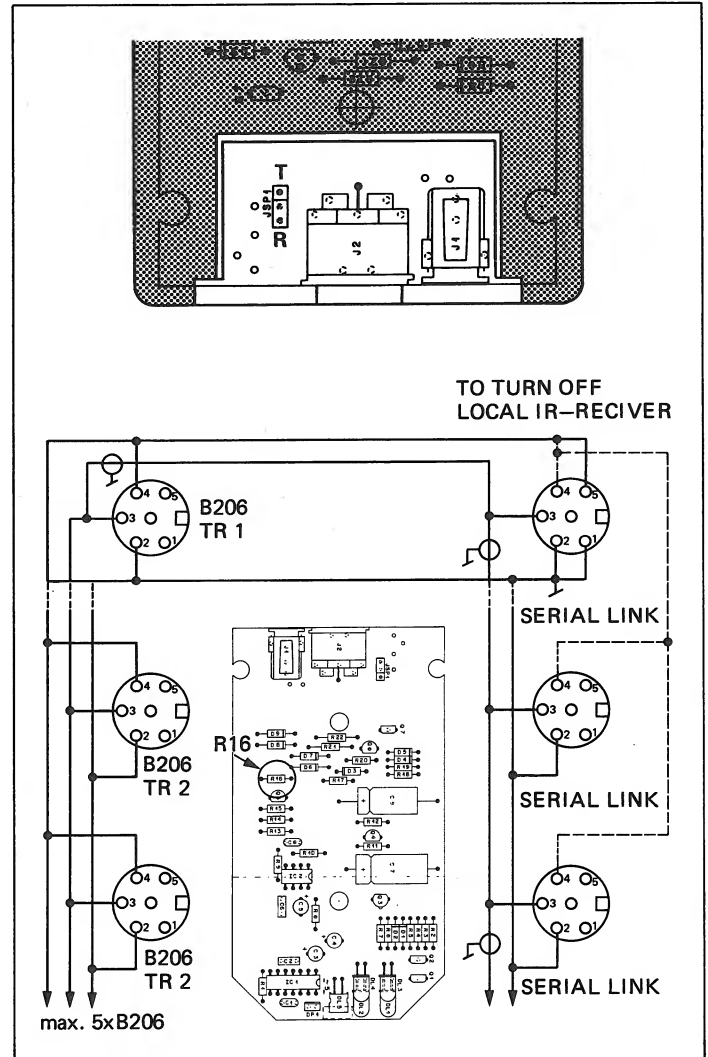

Fig. 4.1
2. Wire DIN connector for B206 Transceiver and the SERIAL LINK socket according to Fig. 4.1.
As can be seen from Fig. 4.1, several B206 Transceivers as well as several REVOX units can be connected in parallel with SERIAL LINK sockets. The installation must be executed very carefully and the connecting cables should be prepared by an experienced technician.
\* On all units with SERIAL LINK the internal IR receiver can be switched off. (In the connector Link pin4 with pin5, as well as pin1 with pin 2. Caution in the case of parallel-connected units: see Fig. 4.1.)